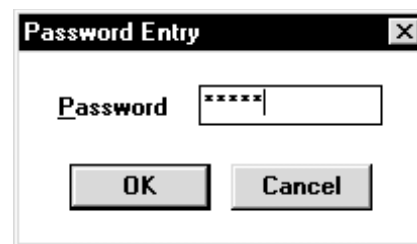

Figure 5-2 PASSWORD ENTRY DIALOG BOX
4. The **Password Entry** dialog box will appear as shown in Figure 5-2.